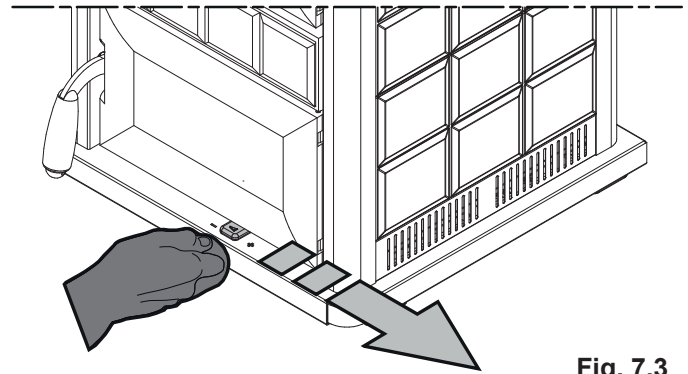

Fig. 7.3
- completely open the primary air adjusting by bringing completely the lever (A) to the right (Fig.7.3);